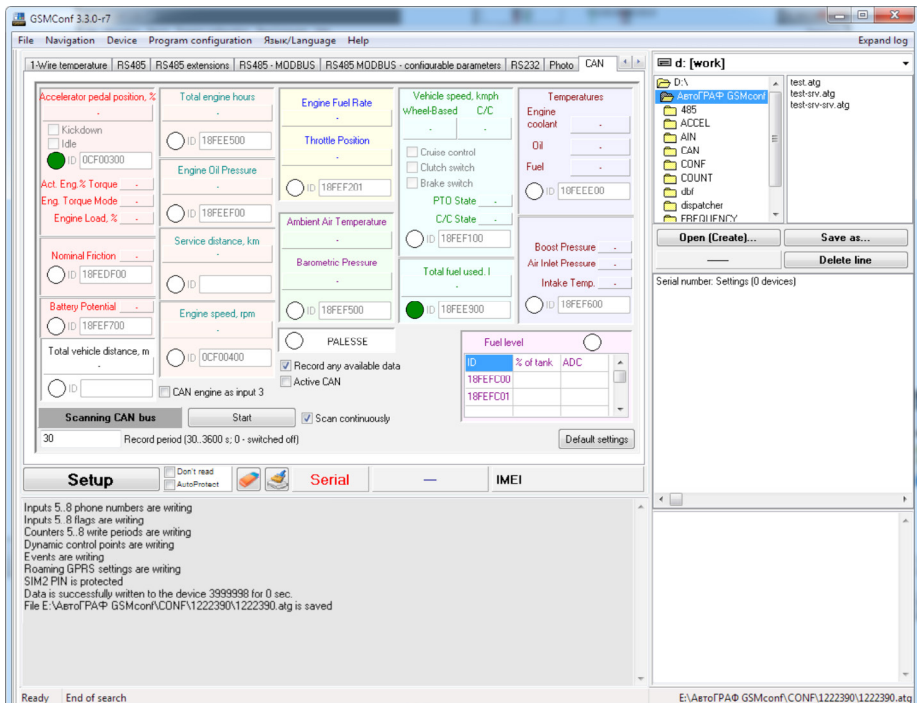

Fig.6. Functional test.
8. Wait until the controller receives data from CAN bus: green indicator on the «CAN» tab will turn on and collected data will be displayed (see fig.6).